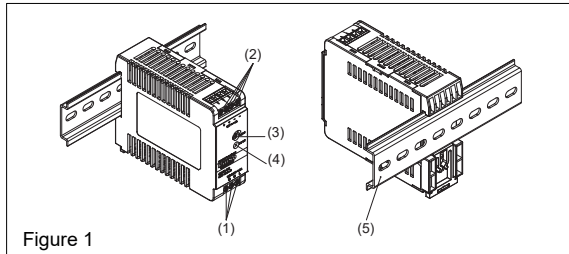
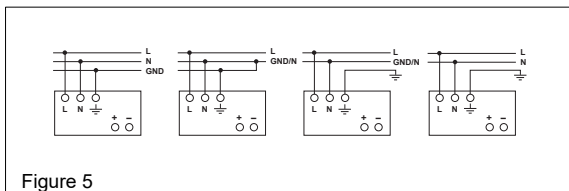

Figure 1
Figure 5
**2. Device description (Fig. 1)**
**5.1. Input connection (Fig. 1, Fig. 5)**
Use L, N and GND connections of input terminal connector (see Fig. 1 (1)) to establish the 100-240 VAC connection. Typical connection methods are shown in Figure 5.
**5.2. Output connection (Fig. 1 (2))**
Use the "+" and "-" screw connections to establish the 12 VDC connection. The output provides 12 VDC. The output voltage can be adjusted from 12 to 15 VDC on the potentiometer. The green LED DC OK displays correct function of the output (Fig. 1 (4)). The device has a short circuit and overload protection and an overvoltage protection limited to 16-18.7 VDC.